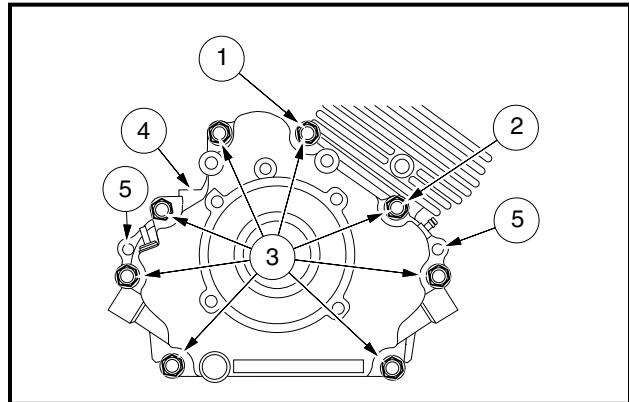

Figure 13-3 Crankcase Cover
2. Remove nuts and clamps at two-ended bolts (1 and 2) (**Figure 13-3, Page 13-5**).
3. Remove eight bolts (3) and remove the crankcase cover (4). **See following NOTE.**
**NOTE:** If the crankcase cover sticks, tap lightly with a plastic mallet on alternate sides near the dowel pins (5) (**Figure 13-3, Page 13-5**).